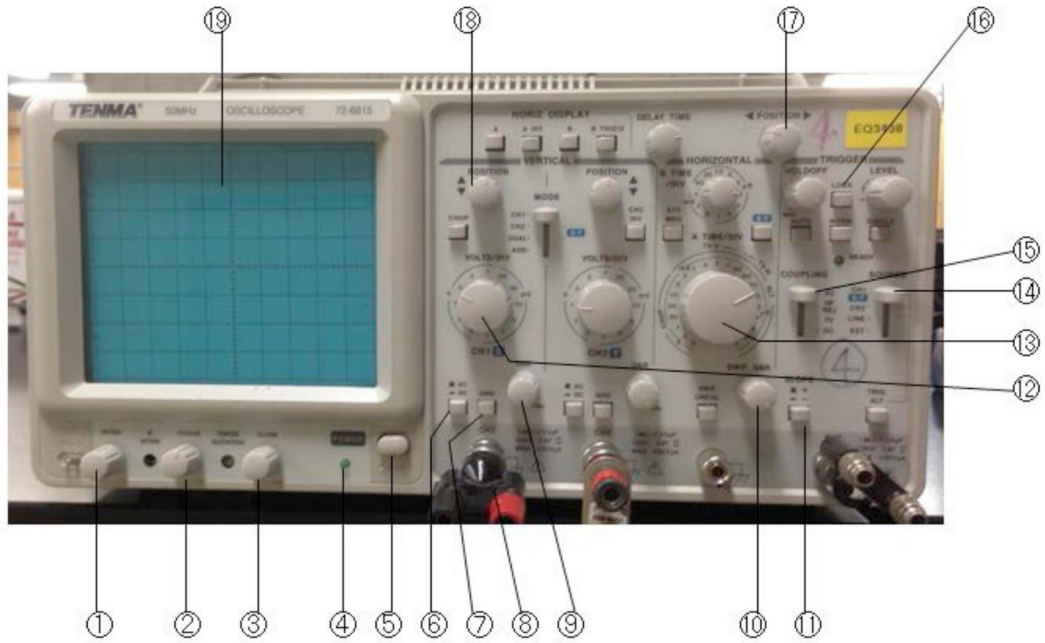

Figure B.7: Photograph of one CRO model
To use the oscilloscope you must first plug it into an outlet, turn it on, and then plug in your positive and negative electrodes into the connection labeled Channel A (number 8 in Figure B.7). You must then adjust the position (18), volts/div (12), and time/div (13) knobs until you see a signal on the screen (19). The position knob will adjust the vertical position of the signal. The volts/div and time/div on the other hand, will modify the value in volts and time and in  $y$  and  $x$  respectively of each of the squares or divisions. Explained in another